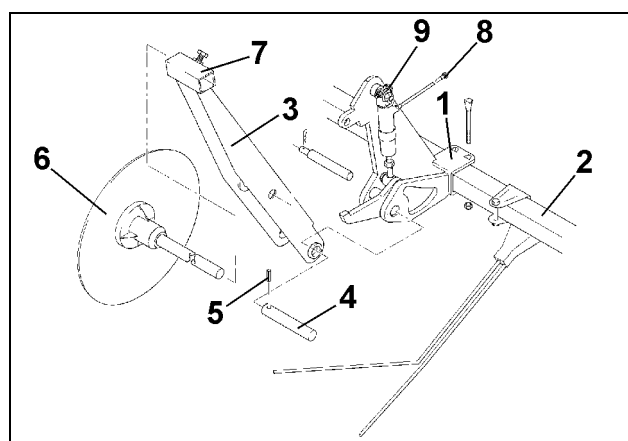

Fig. 38
- Attach two fixing brackets (Fig. 38/1) to the extra coverage following harrow
- Mount the marker disc carrier arm (Fig. 38/3) by means of the pins (Fig. 38/4) and expansion pin (Fig. 38/5) and secure.
- Insert the marker discs (Fig. 38/6) into the marker disc carriers (Fig. 38/3) and clamp by using hex. bolts (Fig. 38/7).
- Connect the hydraulic hoses (Fig. 38/8) to both hydraulic rams (Fig. 38/9) and connect together with the hydraulic ram for the tramline shutter inside the distributor head with the electr.-hydraulic valve.